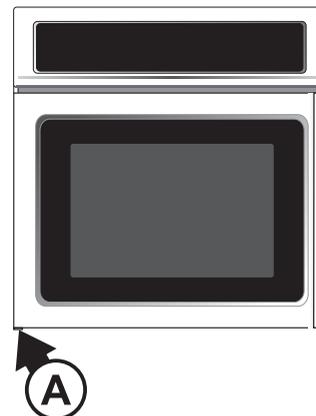

Figure 6
- 3.1.1. Unscrew and remove the threaded pin from the lower hinge (See A, Figure 6).